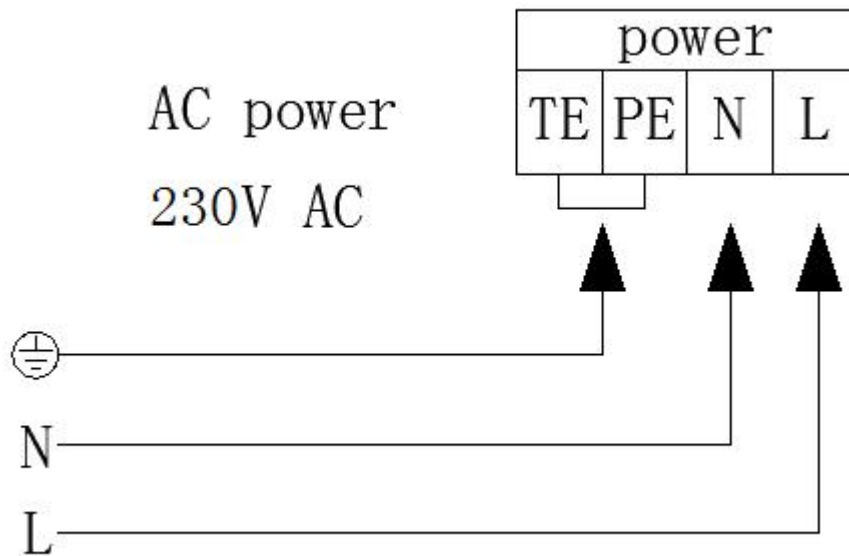

Fig. 4-2
- ✧ The connection terminals of JB-TB-TC5109 Intelligent Fire Alarm control panel need 230V/50Hz power to connect, as following Fig.4-2.